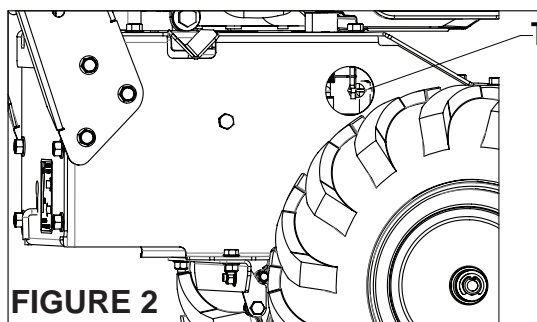

FIGURE 2
1. To decrease maximum travel speed of the machine, turn the speed adjustment knob **A** clockwise. **(Figure 2)**
Maximum reverse speed is limited by the traction bellcrank hitting a stop inside the main frame. **(Figure 2)**
To Adjust Forward Speed: **(Figure 2)**
2. Reach through the access hole on the right side of the machine with a spring removal tool and remove the transaxle belt tensioning spring **T** to relieve the tension on the transaxle belt. (**Figure 2**)